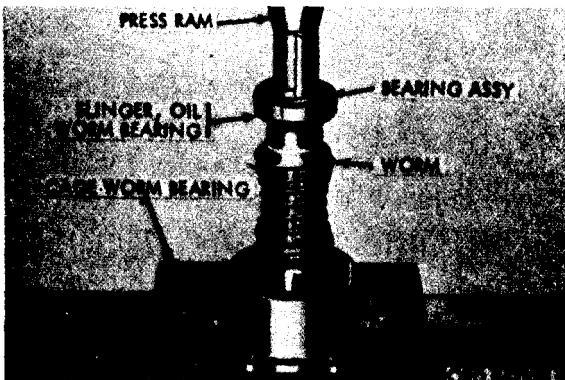

Figure 448. Removing worm and bearings from worm bearing cage
- (f) Mount worm (AL), bearings, slingers, and cage assembly in an arbor press and press worm, slinger, and bearings from worm bearing cage (fig. 448).